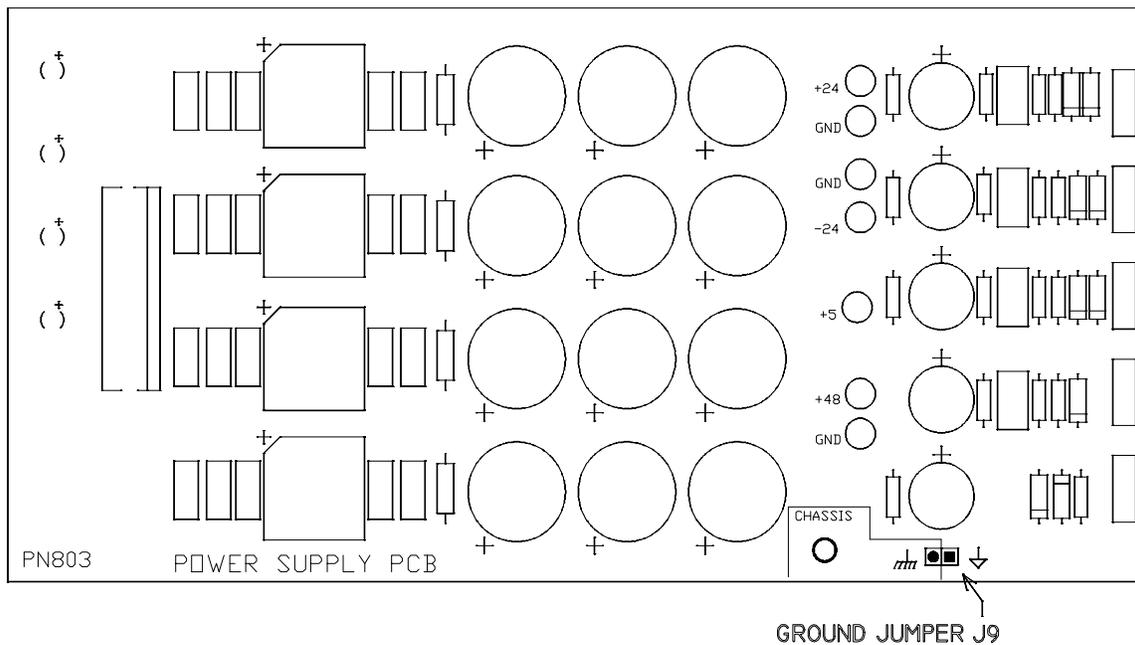

Figure 5. Power Supply Ground Jumper Location (SN#81030 and below)
- iii. Locate J9 and remove it. (see Figure 5)